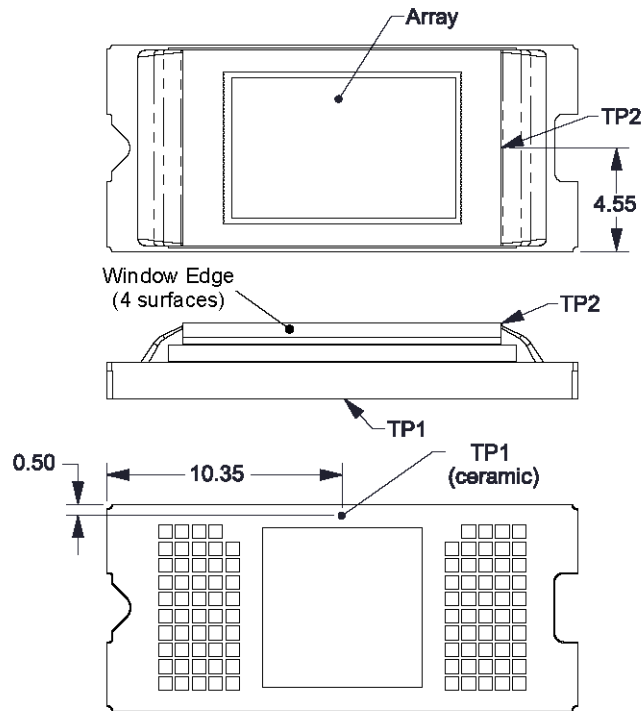

Figure 8-3. Thermal Test Point Location - FQD Package
The DMD is designed to conduct the absorbed and dissipated heat back to the package where it can be removed by an appropriate thermal management system. The thermal management system must be capable of maintaining the package within the specified operational temperatures at the Thermal test point location, see 図 8-3. The total heat load on the DMD is typically driven by the incident light absorbed by the active area; although other contributions can include light energy absorbed by the window aperture, electrical power dissipation of the array, and/or parasitic heating.
The temperature of the DMD case can be measured directly. For consistency, a thermal test point location TP1 representing the case temperature is defined as shown in and Figure 8-3.
- Thermal test point location (see or Figure 8-3)